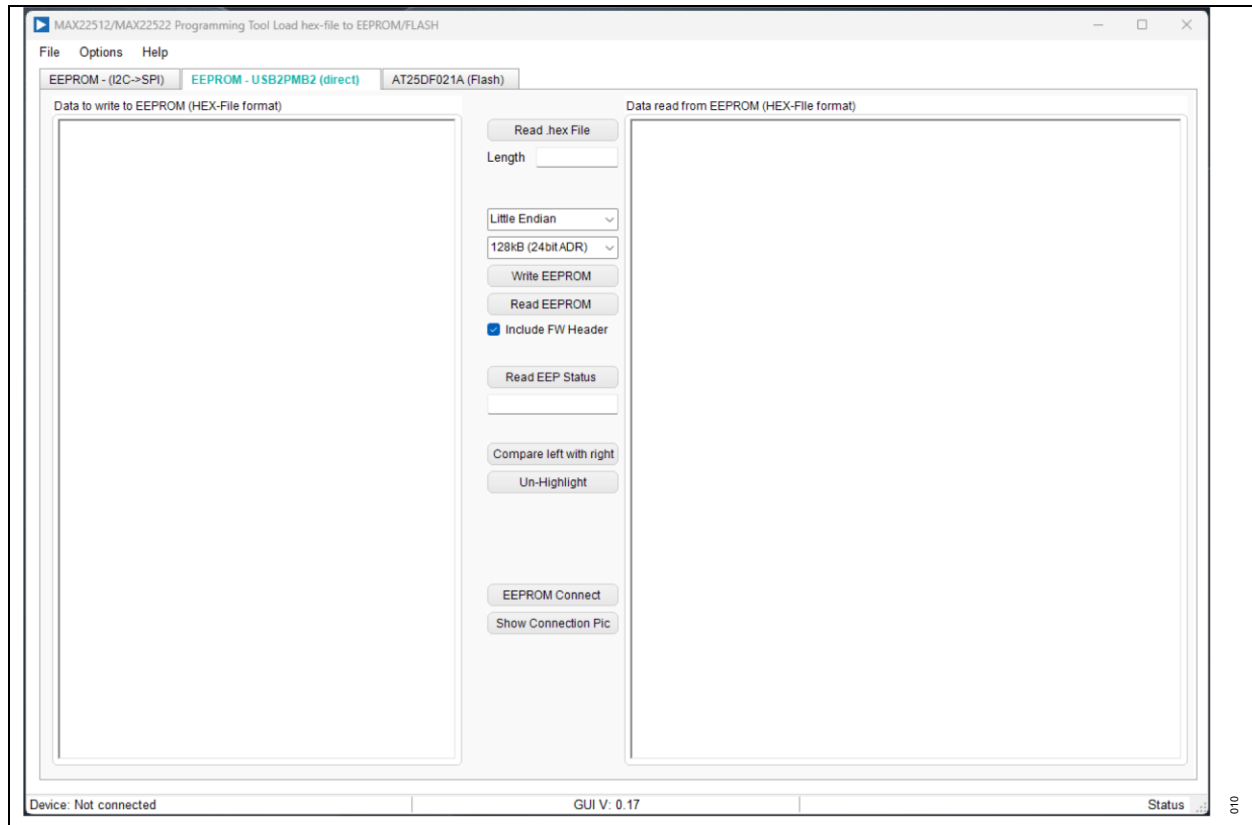

Figure 9. MAX22512/MAX22522 OTP/EEPROM GUI EEPROM - USB2PMB2 (direct) Tab
2. Open the **MAX22512/MAX22522 EEPROM Tool** and select the **EEPROM – USB2PMB2 (direct)** tab. Click the **EEPROM Connect** button to connect to the EEPROM. The device's connection status is shown in the bottom right of the GUI screen. See Figure 9.